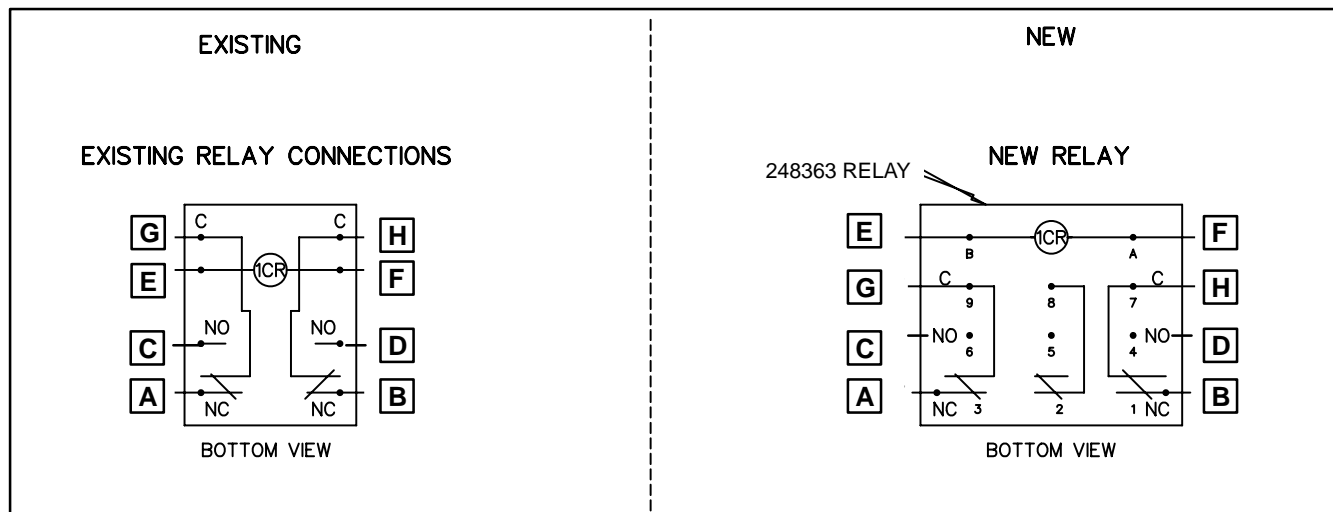

Figure 6. Wiring Diagram for CR, 1CR, and 2CR Relay
3. Examine existing CR, 1CR, or 2CR relay and compare to the illustration in Figure 6. Identify the leads using the letters shown in Figure 6. Do this using masking tape or some other means to identify each lead.
9. Connect controller leads to relay using wiring diagram found in Figure 6.